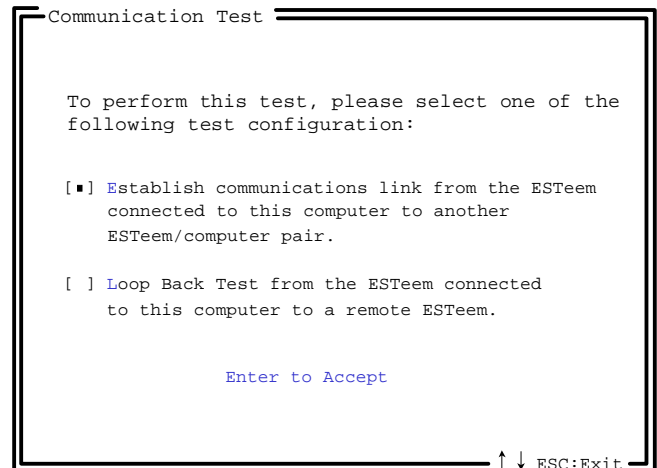

Figure 6: Communications Test Window
- Press Test Communication Between ESTeems. This section will allow you to test the radio frequency (RF) communications between two or more ESTeems. Two types of tests are listed in this window (Figure 6). If you have a computer attached to both ESTeems proceed to step 14 and if you only have one computer to test both ESTeems proceed to step 15.